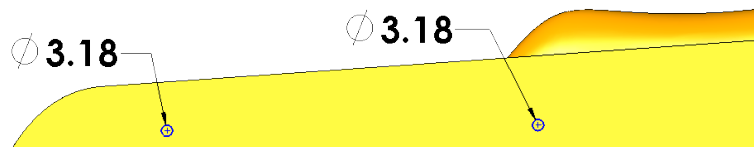

Fig. 72
Step 6. **Delete all dimensions except 3.18 mm axle hole diameters**, **Fig. 72**.
Step 7. Click **Smart Dimension**  (S) on the Sketch toolbar.